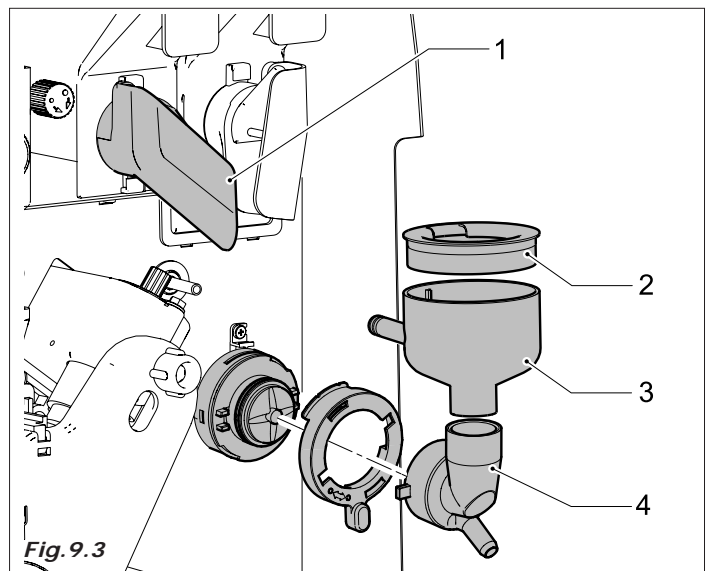

Fig. 9.3
- funnels and powder chutes (Fig. 9.3-pos. 1)
- water funnel (2), mixing bowls (3) whipper assembly (4)